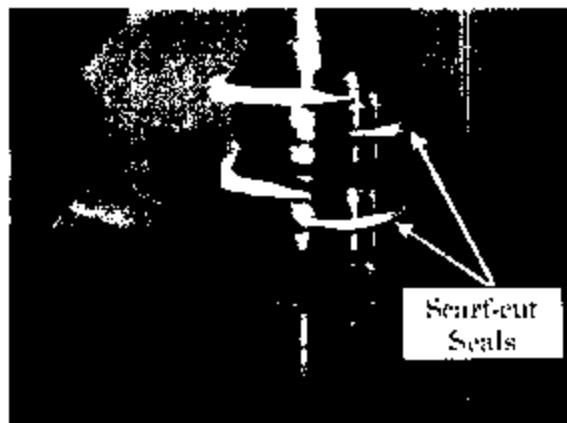

Figure 6
16. Replace the turbine shaft scarf-cut plastic seals (8-96017-481-0 scarf seals 2x) (see figure 6).